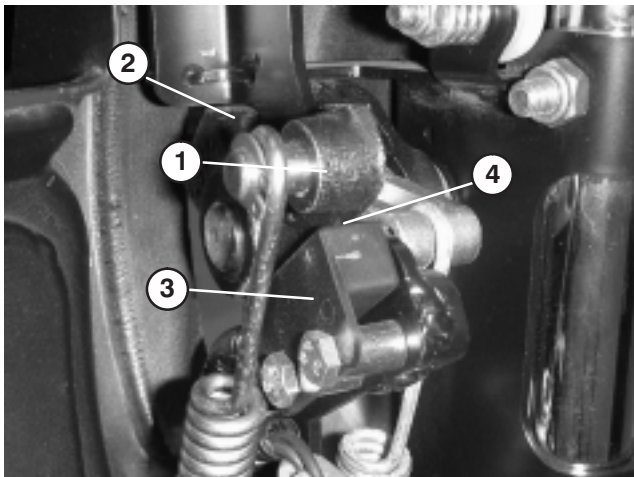

Figure 50
2. Engage traction lever until it contacts neutral stop (Fig. 50).
3. Loosen interlock switch mounting fasteners (Fig. 50).
4. Place a .032" thick shim between the traction lever and the interlock switch (Fig. 50).